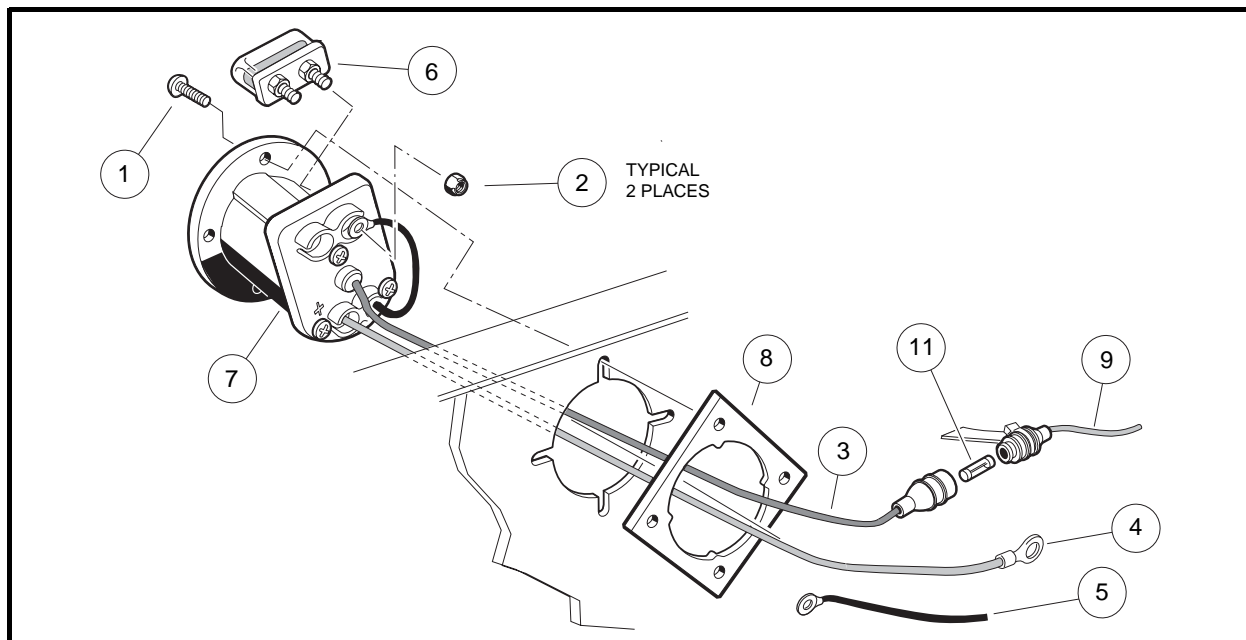

Figure 13-9 Charger Receptacle
2. Remove the 10-gauge red wire (4) from the positive post of battery no. 1 (**Figure 13-9, Page 13-12**).
3. Remove black 10-gauge OBC wire (5) from charger receptacle.
4. Disconnect the gray wire (9) from the receptacle at the yellow fuse holder.
5. Remove the four screws (1) that secure the charger receptacle bezel (7) to the receptacle backing plate (8) and to the vehicle body.
1. Insert the 10-gauge red wire (4) and the 18-gauge gray wire (3) through the hole in the vehicle body and the receptacle backing plate (**Figure 13-9, Page 13-12**).
3. Install the four screws (1) that secure the receptacle to the vehicle body and receptacle backing plate (8). Tighten screws to 16 in-lb (1.8 N·m).
4. Connect 18-gauge gray wire (9) to yellow fuse holder. Make sure fuse (11) is installed in fuse holder.
5. Connect the 10-gauge black wire (5) to the receptacle fuse link (6) on the charger receptacle (**Figure 13-9, Page 13-12**). Tighten to 23 in-lb (2.6 N·m).
6. Connect the 10-gauge red wire (4) to the positive post of battery no. 1.
The fuse link on the 48-volt Club Car electric vehicle should not blow under normal operating conditions; however, if the fuse link has blown, the vehicle will not charge and the fuse must be replaced. The fuse link (6) is mounted on top of the charger receptacle in the battery compartment (**Figure 13-9, Page 13-12**).
1. Remove the fuse link (6) from the charger receptacle (7) by removing the two nuts and washers used to secure the 10-gauge black wire from the computer (5) and the 10-gauge black wire to the receptacle (**Figure 13-9, Page 13-12**).
2. Remove the fuse link (6) from the charger receptacle.
3. Install nuts (2) on fuse link mounting posts and tighten to 23 in-lb (2.6 N·m) (**Figure 13-9, Page 13-12**).